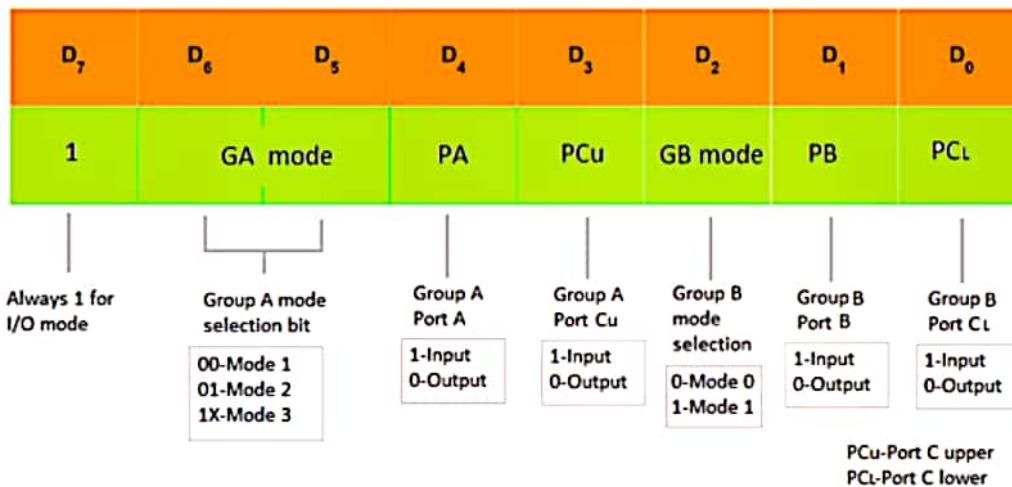

Figure 5: 8255 Control word for I/O mode
- **D₀, D₁, D₃, D₄** are assigned for lower port C, port B, upper port C and port A respectively. When these bits are **1**, the corresponding port acts as an input port. For e.g., if **D₀ = D₄ = 1**, then lower port C and port A act as input ports. If these bits are **0**, then the corresponding port acts as an output port. For e.g., if **D₁ = D₃ = 0**, then port B and upper port C act as output ports as shown in Figure 5.